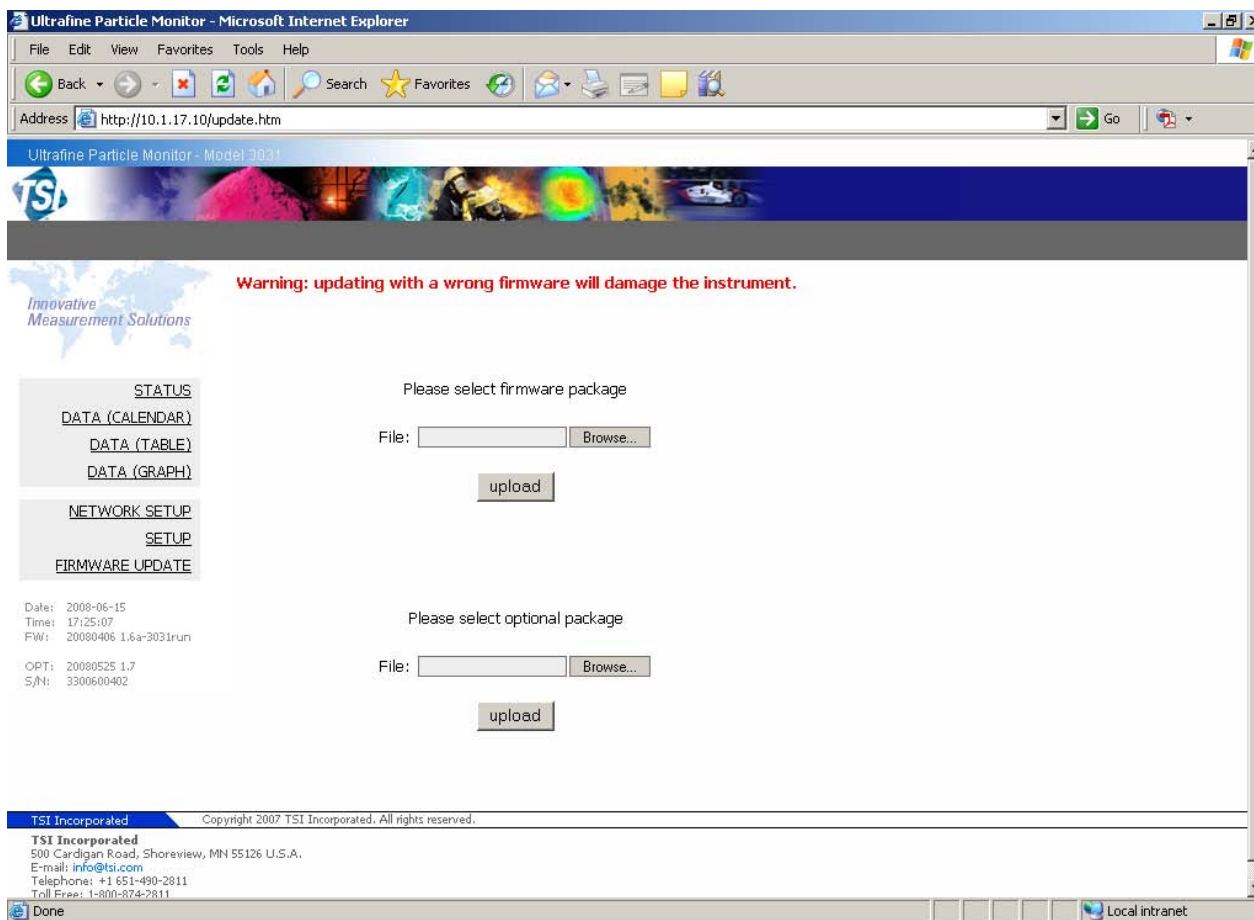

Figure D-1
3. Select the correspondent firmware (e.g. firmware330_xxx.bin, refer to Figure D-1).
3. Select the correspondent optional package (e.g. optional330_xxx.bin, refer to Figure D-1).